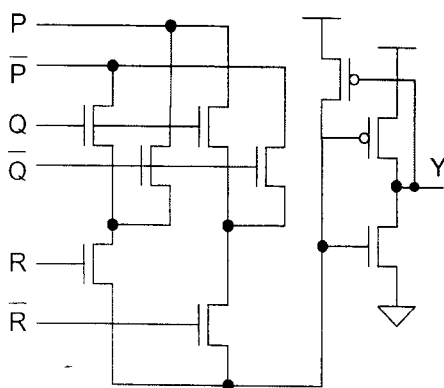

Figure 6.1
- b) Figures 6.1 and 6.2 show two pass-transistor logic gates. Derive the truth tables for the two logic gates.